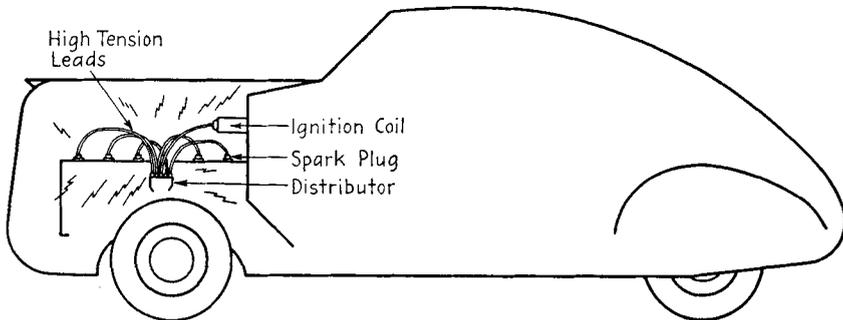

FIG. 20-4. RF interference from the ignition wiring.
**Motor interference.** From the point of view of the generation of RF interference, the ignition system of an automobile is really a spark transmitter. The sparks at the distributor and the spark plugs feed RF energy to the ignition wiring, which may be looked upon as the transmitting antenna or source of the ignition interference. The radiations feed energy to the entire electric system of the car and to any ungrounded metal parts in or near the motor compartment. The diagram of Fig. 20-4 represents the ignition system as a transmitter.